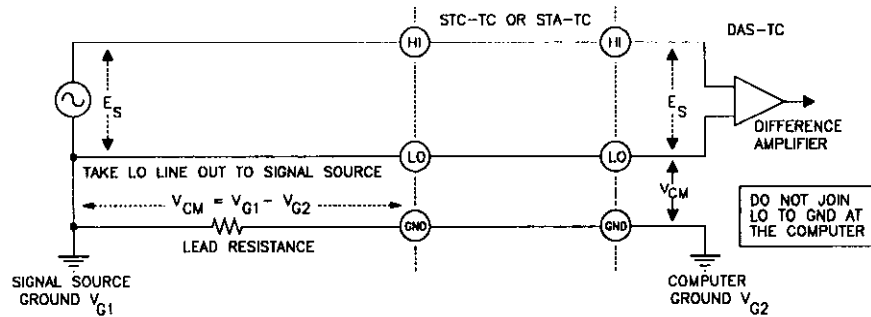
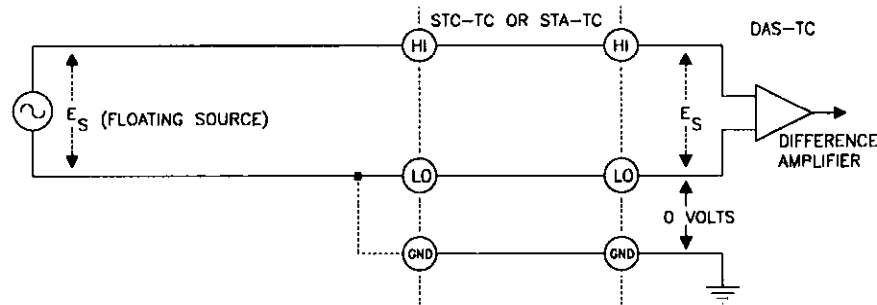

Figure 3-6. Connecting a Grounded Signal Source.
Figure 3-7. Connecting a floating source to a differential input.
A differential input responds only to the difference signals between the high (HI) and low (LO) inputs of a channel. In practice, the signal-source ground and the computer ground (where the DAS-TC is) will be at slightly different potentials, as they are connected through the ground returns of the equipment and the building wiring. The difference between the ground voltages (see Figure 3-6) forms a common-mode voltage (V_{cm}), a voltage that is common to both inputs and that a differential input is designed to reject (up to a certain limit).
If you have a combination of floating- and ground-referred signal sources, connect the ground-referred signals as shown in Figure 3-6 and the floating signals as shown in Figure 3-7.
Note in Figure 3-7 that you may make a connection between LO and GND at the accessory-panel input to maintain the input voltage being measured within the common-mode range of the DAS-TC. However, the LO inputs of the DAS-TC have 10 k Ω resistors to GND, making most external LO to GND connections unnecessary.